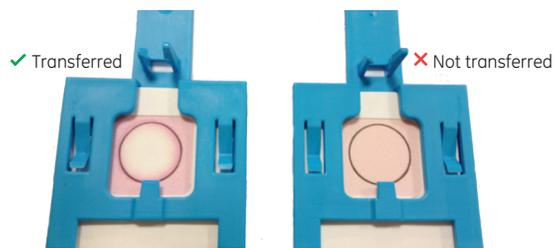

Figure 5
13. When dry, check the indicating FTA card and confirm that the colour has changed to white within the sample area (Figure 5).